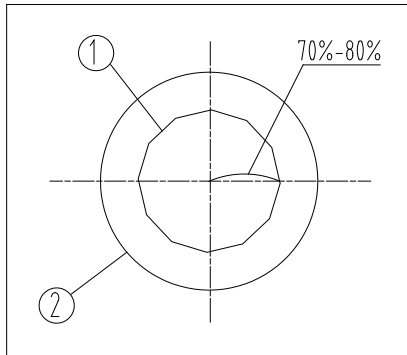

Figure 19
2. If the contrast of your sample is low, you can adjust the condenser diaphragm (3), towards the objective magnification indication on the condenser (4), i.e., adjust the N.A. of the condenser 70%-80% of the objectives N.A. If necessary, you can remove the eyepiece to observe from the eyetube. Adjust the condenser diaphragm (3) until you obtain an image similar to (Figure 19, Inner ring (1) is the image of the aperture diaphragm, (2) is the outside edge of the objective.)